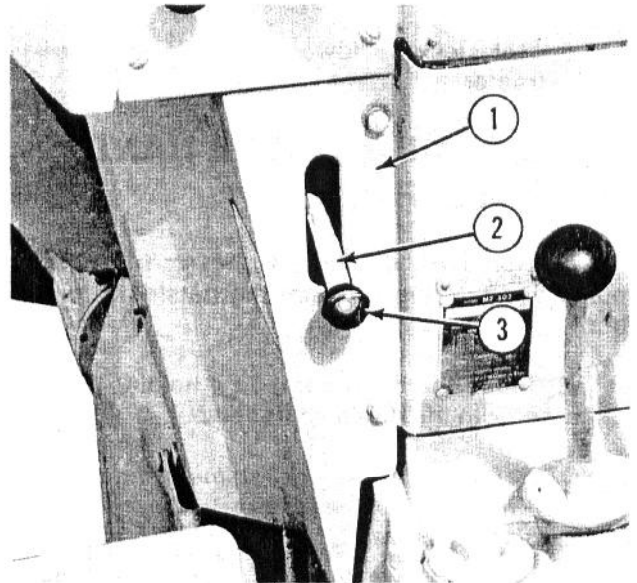

FIG. 10 — LOWER REAR SIDE PANEL — LEFT-HAND
1. Unscrew knob, No. 3, Fig. 10, from the pivot lock handle, No. 2, and remove the lower rear, LH side panel, No. 1, from the tractor.